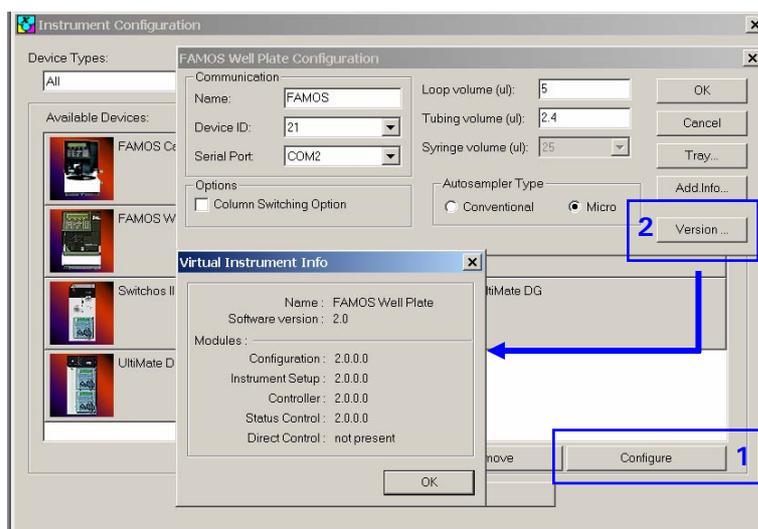

FIGURE 2-50 Reading the FAMOS Well Plate Plug-In Version
- a) Open the **Instrument Configuration** window and choose one of the instruments that are presented in the 'Configured Devices' field, e.g. click on the FAMOS Well Plate icon (item1, FIGURE 2-50).
- b) Choose the **Configure** button (item 1, FIGURE 2-50) to open the configuration box.
- c) Choose the **Version** button (item 2, FIGURE 2-50) to open the **Virtual Instrument Info** window.